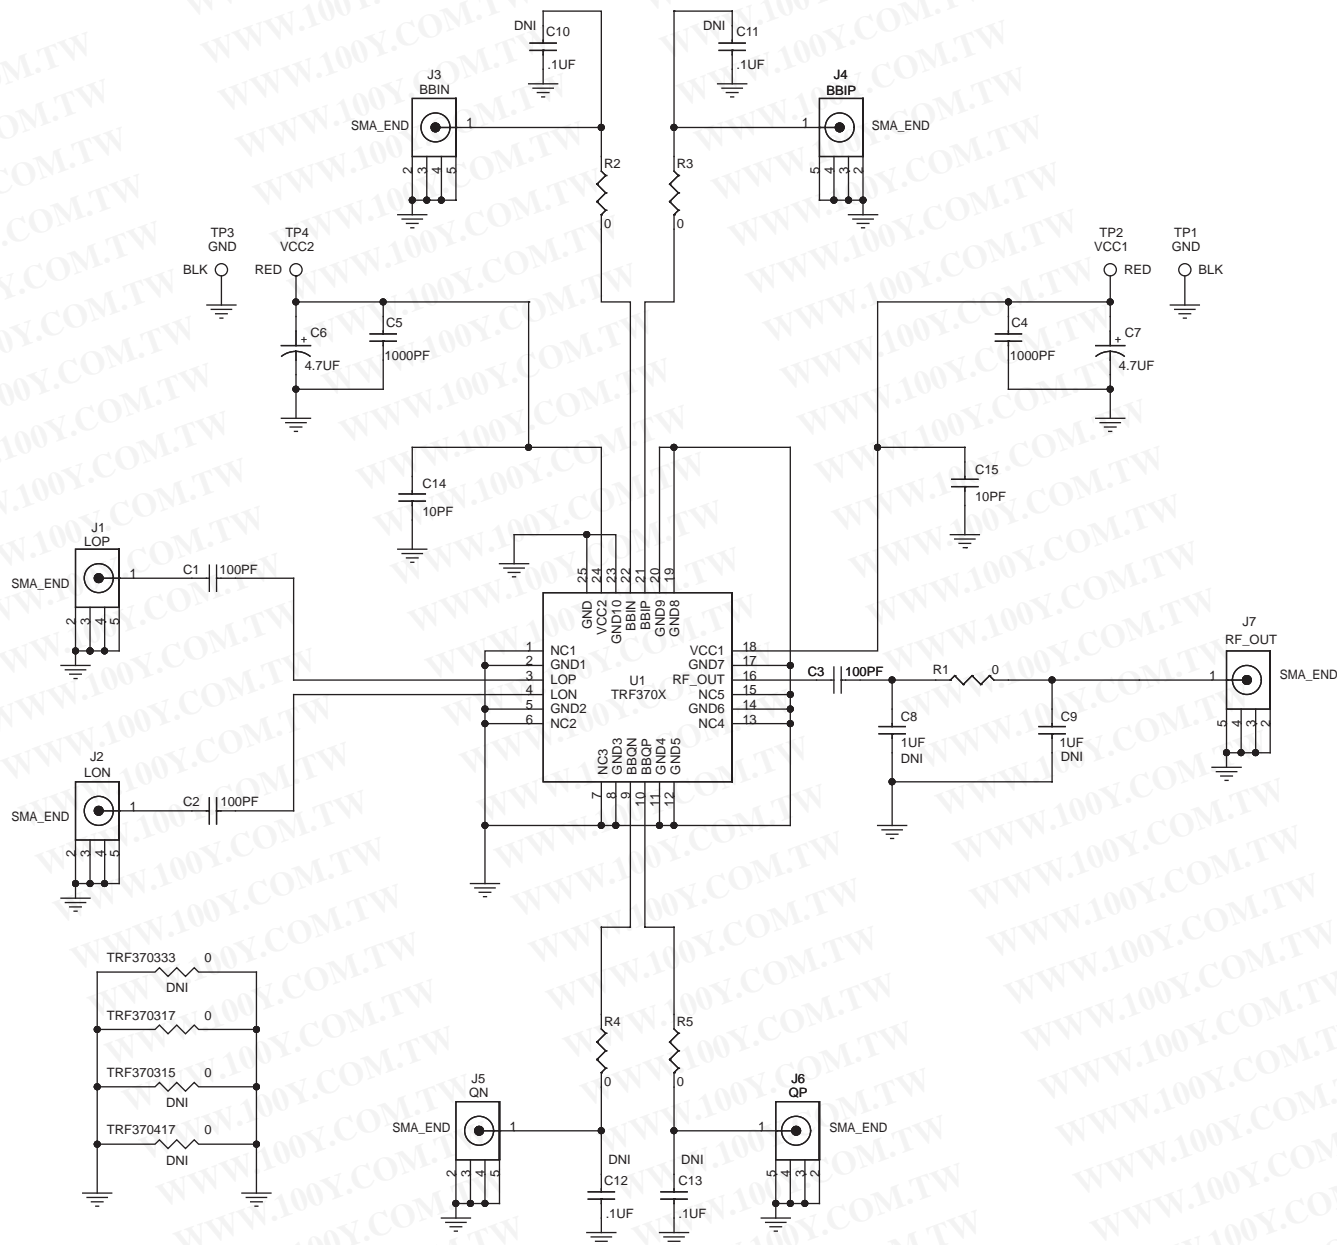

Figure 47. TRF3704 EVM Schematic
- See Figure 47 for proper connection of the TRF3704 modulator.